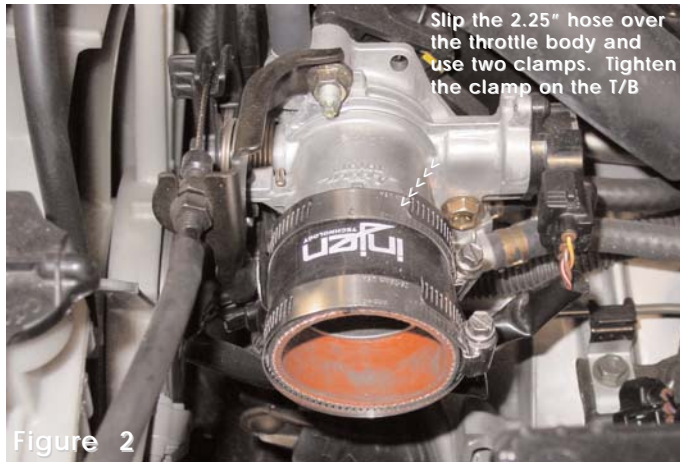

Figure 2
2. Press the 2 .25" straight hose over the throttle. Use two clamps on the hose but only tighten the clamp on the throttle body end. (See fig. 2)